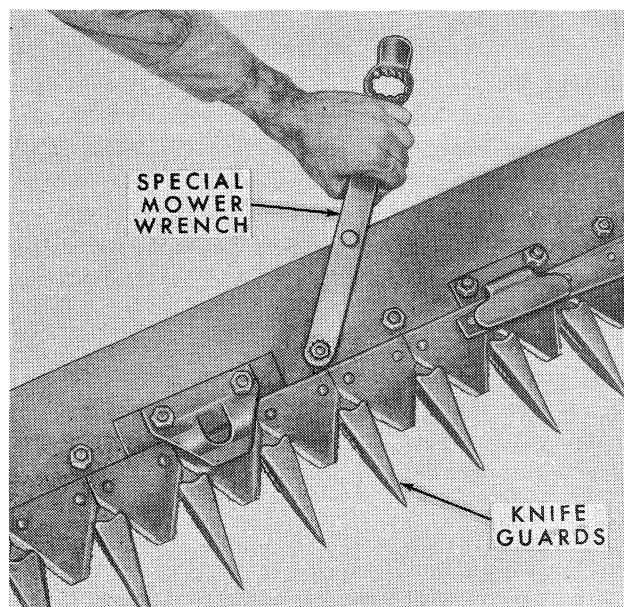
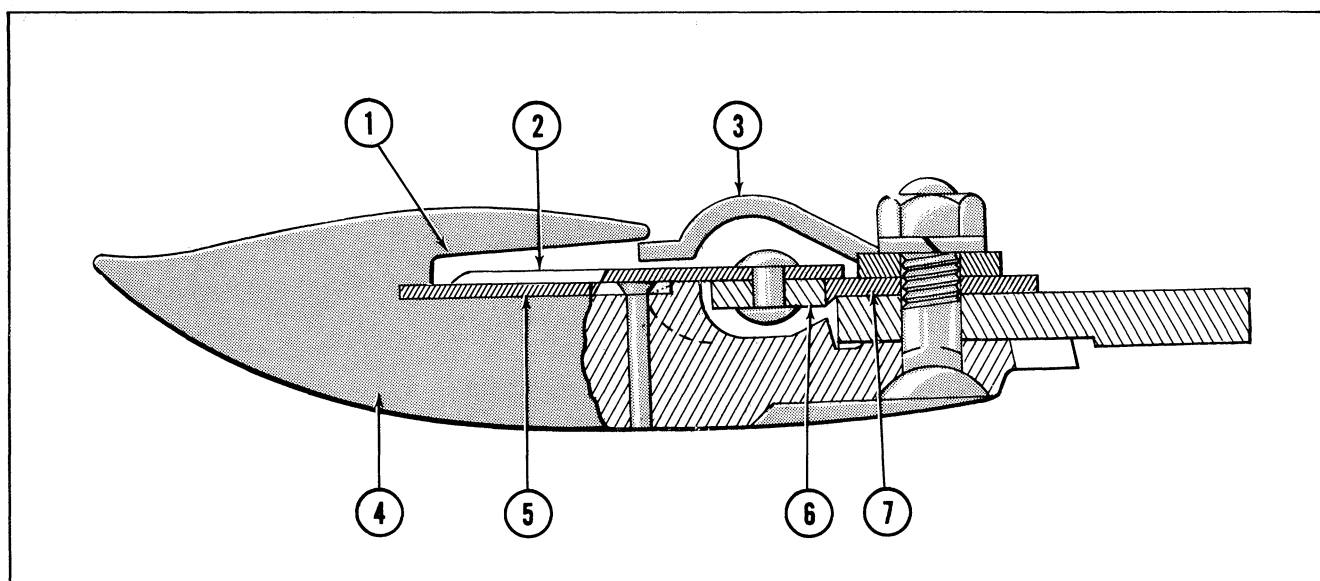

Figure 26
Figure 27
Ledger plates (5), Figure 27, should be replaced
All of the knife guards, Figure 26, should align with each other and with the inner and outer shoes. At the same time, the knife sections (2), Figure 27, should be flush with the ledger plates (5). If necessary, align the guards by striking the forward end up or down with a hammer. Be sure the knife guard lip (1) is above the knife clip (3), and is straight, as shown.
All badly bent or broken guards should be replaced. Use the special mower wrench when replacing the guards. See Figure 26. Blunt guards should be repointed by filing or grinding.
The knife clips (3), Figure 27, should hold the knife sections (2), down on the ledger plates (5), without binding the knife sections. Adjust by removing the knife and striking the forward end of the clip up or down.
The wear plates (7), Figure 27, support the rear of the knife so that the sections will make good contact with the ledger plates and thereby provide good shearing action. Therefore, the wear plates (7) must be positioned so they just touch the knife back (6), as shown. The holes in the wear plates are slotted to provide a fore and aft adjustment.